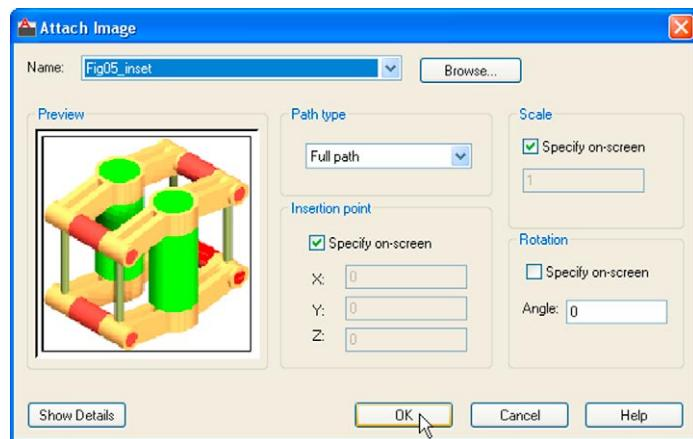

Fig. 10.10 The **Attach Image** dialog
2. Click the **Open** button of the dialog. The **Attach Image** dialog appears (Fig. 10.10) showing a preview of the bitmap image.